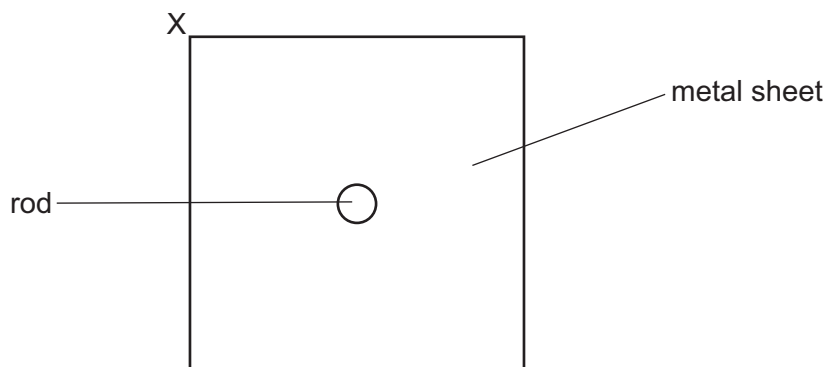

Fig. 2.3
- (c) When a torque of 3.3 N m is applied to the rod, the sheet is held in equilibrium with two of its edges horizontal, as shown in Fig. 2.3. Point X is at the top-left corner.
- (e) Use the answer in (b) and the information in (c) and (d) to determine the position of the centre of gravity of the sheet. Indicate this position on Fig. 2.3 with a point labelled Y. [2]